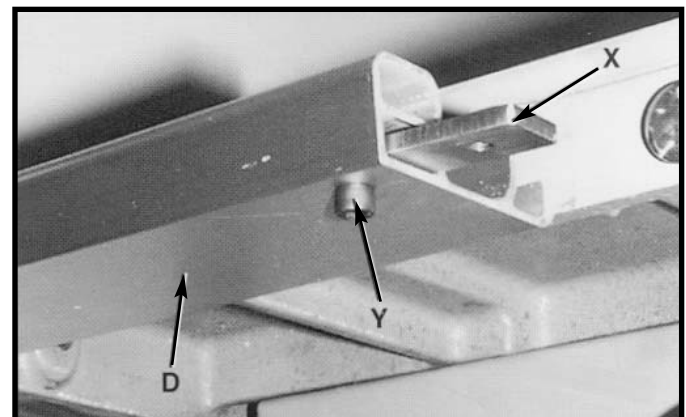

Fig. 43
3. Insert adapter plate (X) Fig. 43 into bottom slot of front guide rail (D) as shown. Fasten in place using 1/4-20 x 3/8" socket head screw (Y). **NOTE:** Do not completely tighten at this time.
7. When the rails are completely assembled and tightened, install a 1/4-20 x 3/8" socket head screw (Y) in the other side of the adapter plate (X) Fig. 43, **then tighten both screws.**